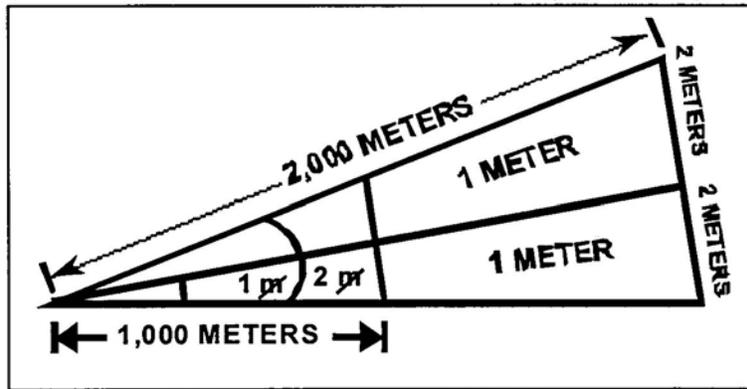
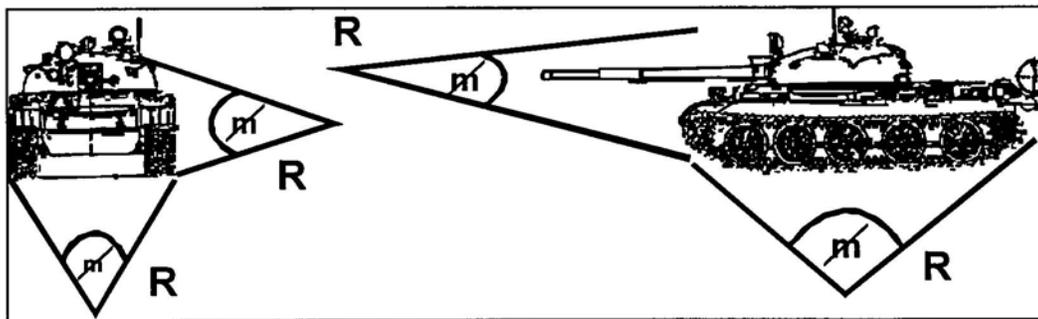

Figure 7. Mil-relation method.
Figure 8. Use of the mil-relation formula.
- b. Mil-relation method. Use the width, length, or height of the target in mils, represented by the  $R$  in the mil-relation formula,  $R=W-m$ , to determine the range to the target (Figure 7). The mil relation holds true whether the  $W$  is measured horizontally or vertically (Figure 8).